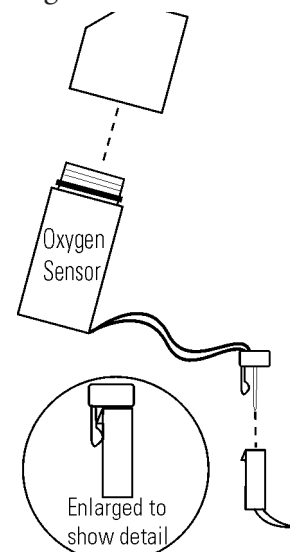

Figure 5-13. Detail
3. Lift up slightly on the tab securing the sensor wire terminal connection. Be careful not to break the locking tab off. See enlarged detail of Figure 5-13.
7. Orient the connectors as shown in Figure 5-13 and connect.